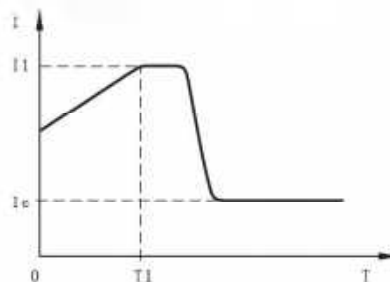

Figure 12-4-1
- a) The motor will be under current starting mode when code F9 is set to 4(current ramp). Figure 12-4-1 shows the output current wave of the current ramp starting mode, t_1 is the time value set by code F1.